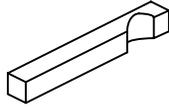

Figure 8 Solid Mounting Arm
1. Form a piece of 1/16" square brass tubing as shown in Figure 8. and solder it to the housing on the back of the target assembly. This looks a little more prototypical.
Complete the target assembly by soldering a mounting bracket to the side of the light housing. Normally the target is offset to the left (facing from the front), but in tight situations you might want to offset it to the right. You can make the bracket as shown in Figures 8 or 9. The square tubing looks more prototypical, but the strip is easier to attach. Attach the target by placing the mast and the target assemblies into the jig. I find that with tubing bracket it is necessary to shim the target face upward so that bracket mates properly with the mast. Solder when it is correctly aligned, Figure 18.